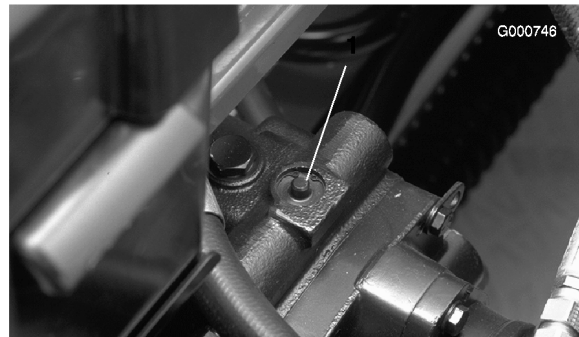

Figure 25
1. The bypass valve is located on top of variable displacement pump (Figure 25). Rotate the valve 90°, in either direction, to open and allow oil to bypass internally. Because fluid is bypassed, the machine can be moved slowly without damaging the transmission.